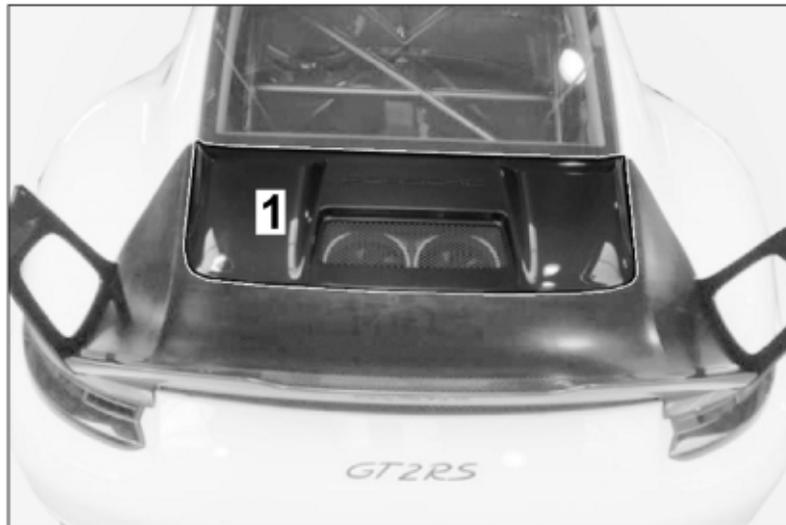

Figure 65
36. – Mount the upper air inlet with the standard screws ⇒ *Figure 65 -1-*. When installing the air inlet, the connector for the third brake light must be plugged in.